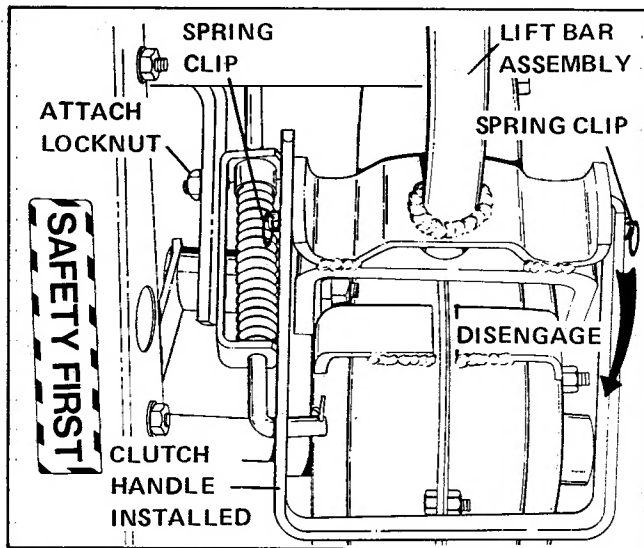

FIGURE 1.
2. Attach clutch handle and rod assembly to the pins protruding on each side of the lift bar assembly and place spring clips through pins. (See figure 1.)
3. With the handle in the disengaged position, attach the rod guide assembly stud to clutch idler arm assembly with 5/16" locknut. Connection should be snug, but free to pivot. (See Figure 1.)